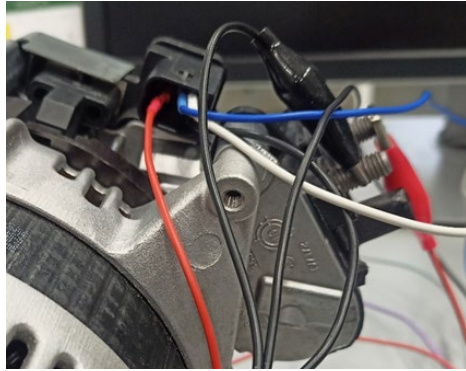

Figure 27. Connecting the diagnostic cable to the connector terminals
2.1. Connect the required wires to the alternator connector terminals (see **Fig. 27**).